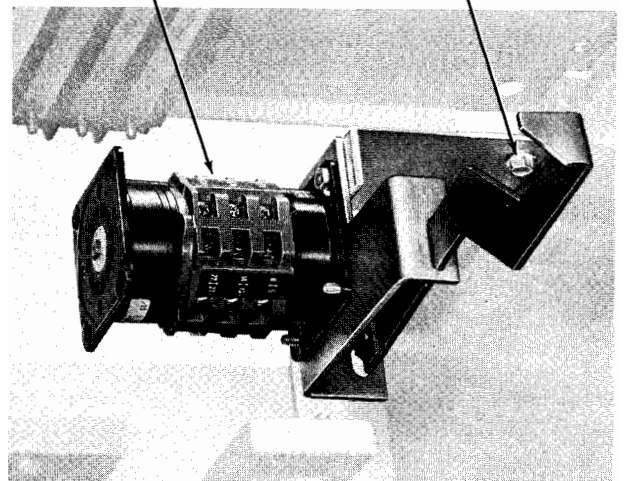

Figure 15 View of right rear of compartment
Kit consists of the switch assembly, (2) $\frac{1}{4}$ -20 \times $\frac{1}{2}$ " long thread forming screws, wire ties, and a grommet for one of the $\frac{1}{4}$ " dia. wiring access holes. Attach the unit as shown in Figure 15.